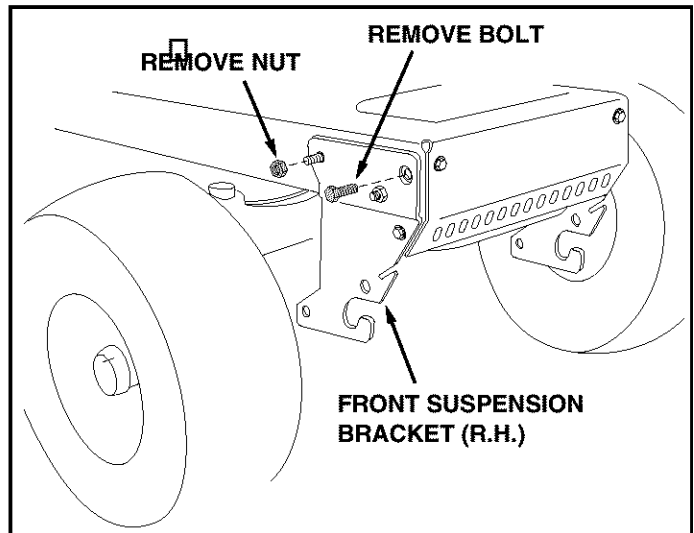

FIGURE 1 RIGHT SIDE VIEW
- Remove the hex bolt from the threaded hole at the top front corner of R.H. front suspension bracket. Remove the nut from the carriage bolt at the top rear corner of the bracket, leaving the carriage bolt in the tractor frame. See figure 1.